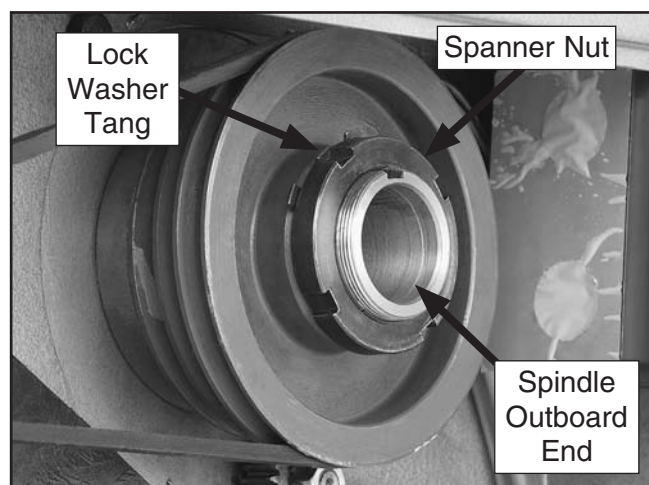

Figure 108. Lathe spindle outboard end.
3. Remove the chuck or faceplate from the lathe spindle, then open the change gear cabinet to expose the outboard end of the spindle (see **Figure 108**).